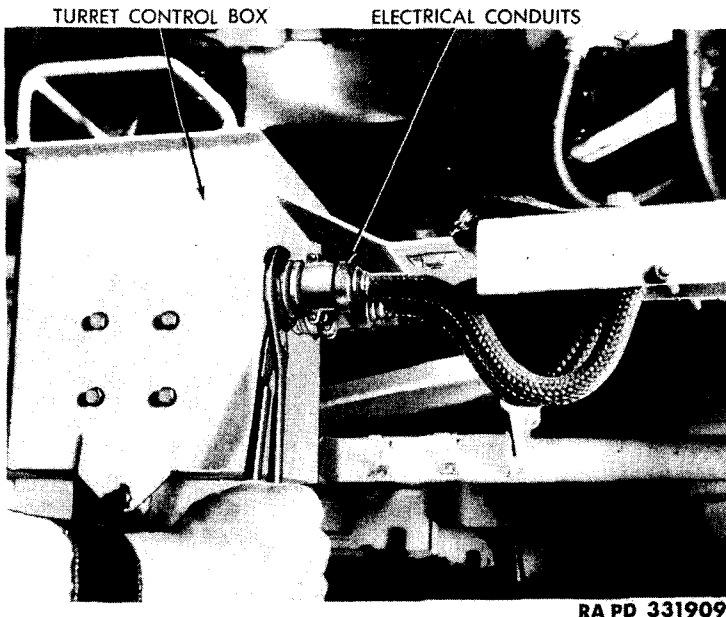

Figure 51. Disconnecting conduits from control box (M24).
b. DISCONNECT FEED CABLES. Turn master switch to OFF position. Disconnect three conduits from front of turret control box by loosening knurled nuts and pulling conduits out of box (fig. 51). Disconnect one end of radio ground strap on box.